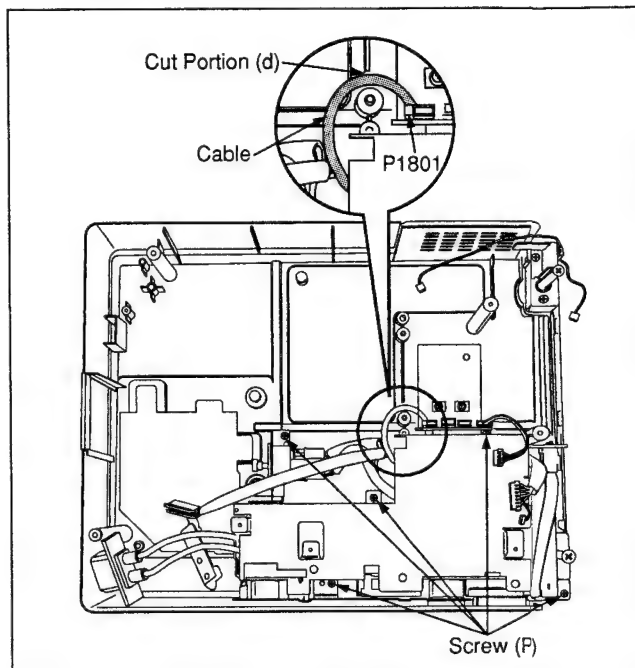

Fig. D15
1. Remove 5 screws (P) as shown in Fig. D15.
1. Insert the cable connected to a connector P1801 in the cut portion (d) of chassis as shown in Fig. D15.